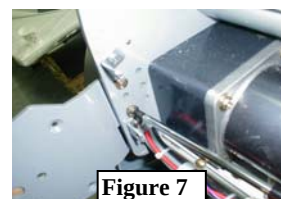

Figure 7
2. Detach the main PCB from the 4 white plastic supporters. Figure 7
5. Install the right rewinder on the outside of the frame and connect the motor wire to the rear wire (Figures 7 & 8).